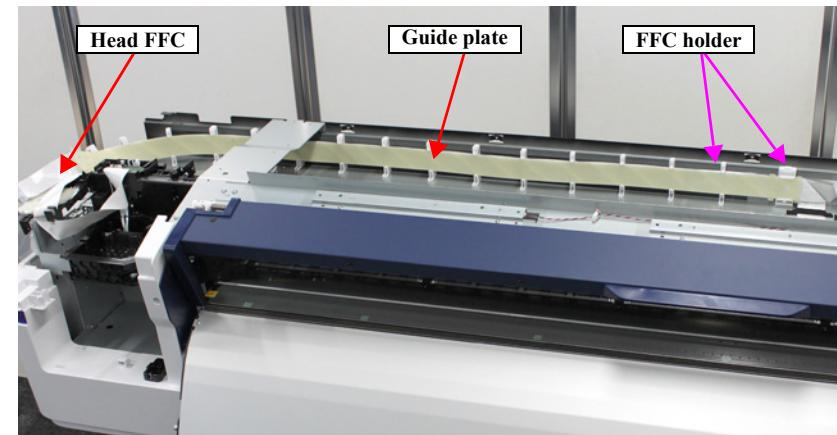

Figure 3-88. Releasing the head FFC
- Route the head FFC under the tube. (Figure 3-88)